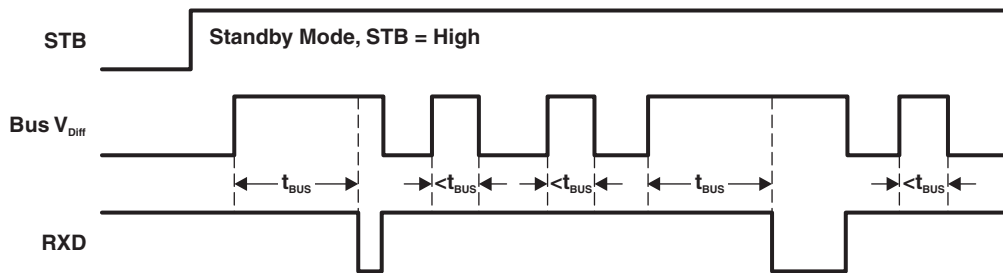
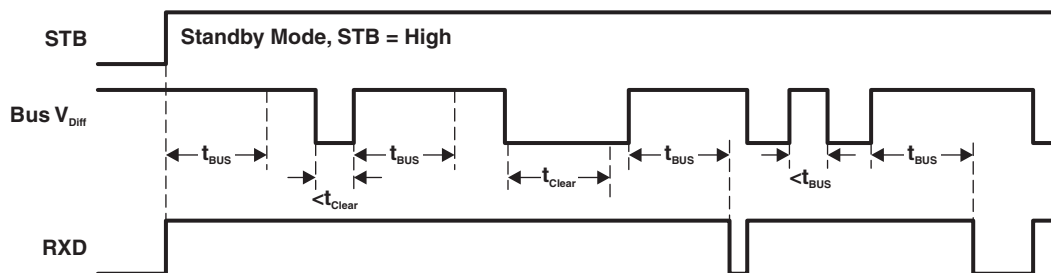

Figure 17. HVDA541 RXD Wake Up Request With No Bus Fault Condition
Figure 18. HVDA541 RXD Wake Up Request Lock Out When Bus Dominant Fault Condition
- (2) See Figure 17 and Figure 18 for operation of the low power wake up receiver and bus monitor for RXD Wake Up Request behavior and Table 5 for the wake up receiver threshold levels.
- (3) When V_{IO} is undervoltage, the device is forced into standby mode with respect to the CAN bus since there is not a valid digital reference to determine the digital I/O states or power the wake-up receiver.
(1) Mirrors bus state: LOW if CAN bus is dominant, HIGH if CAN bus is recessive.
(2) See Figure 17 and Figure 18 for operation of the low power wake up receiver and bus monitor for RXD Wake Up Request behavior and Table 5 for the wake up receiver threshold levels.
- (1) H = high level, L = low level, X = irrelevant, ? = indeterminate.
(2) While STB is high (standby mode) the RXD output of the HVDA540 is always high (recessive) because it has no wake-up receiver.
(3) While STB is high (standby mode) the RXD output of the HVDA541 functions according to the levels above and the wake-up conditions shown in Figure 17 and Figure 18.